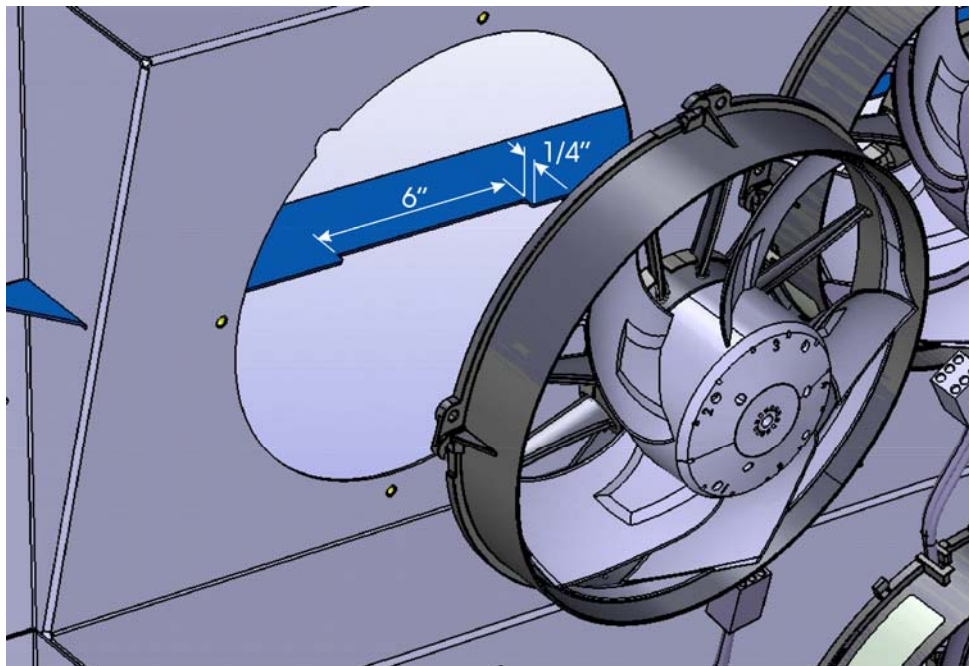

FIGURE 1: REQUIRED CLEARANCE – H3 SERIES VEHICLES ONLY
1. On **H3 Series vehicles only**, it is necessary to modify the fan shroud according to the measurements of figure 1.